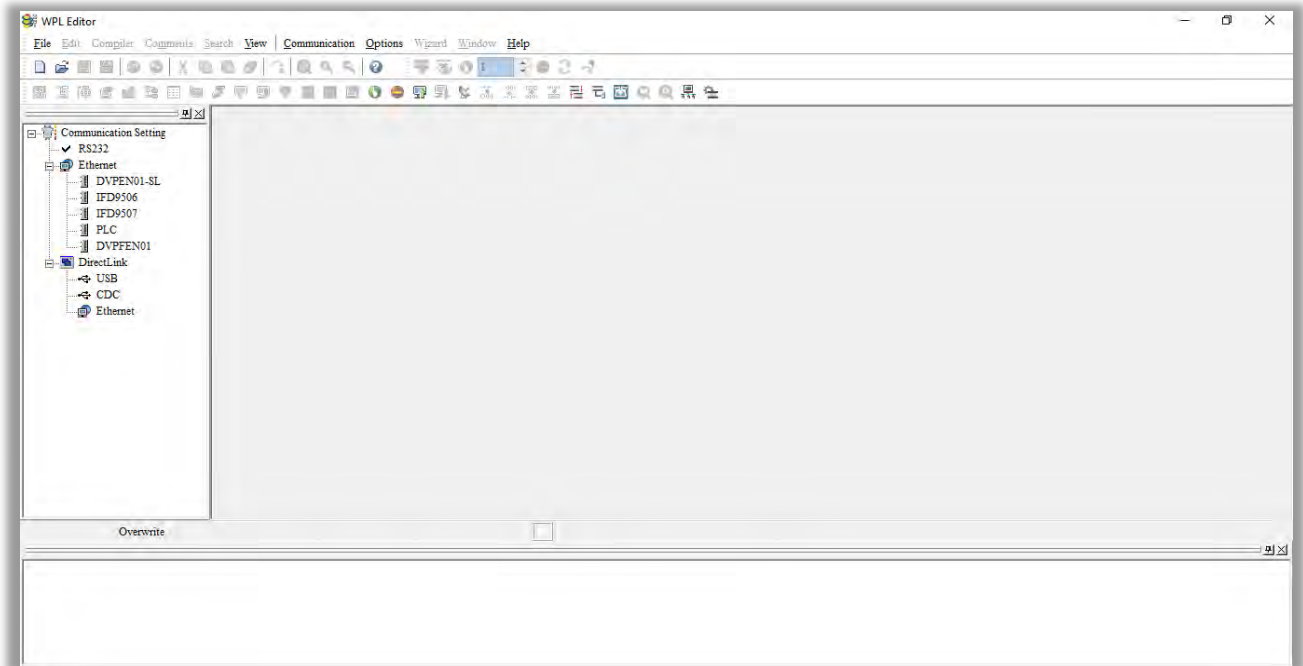

Figure 16-2
Step 2: The WPLSoft editing window appears (see figure 16-2 below). When running WPLSoft for the first time, before "New file" has been used, only the "File (F)," "Communications (C)," "View (V)," "Options (O)," and "Help (H)" columns will appear on the function toolbar.